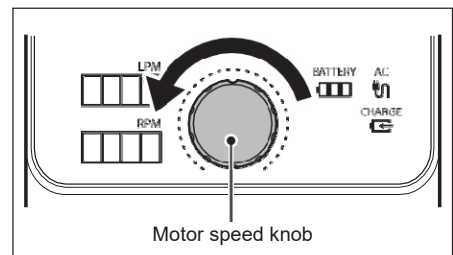

Figure 1-63
2. **Turn the motor speed knob counter-clockwise to change the motor speed to 0 RMP to stop the Drive Motor. (Figure 1-63)**